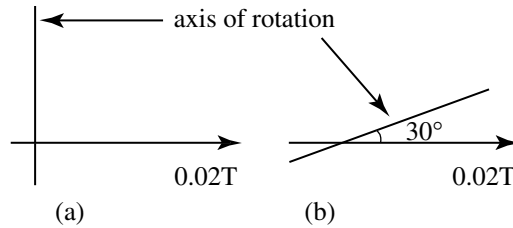

Figure 2.4 Example 2.1.
- (i) This is shown in Fig. 2.4(a). The maximum flux passes through the coil when the plane of the coil is at right angles to the direction of the flux.
(ii) This is shown in Fig. 2.4(b).